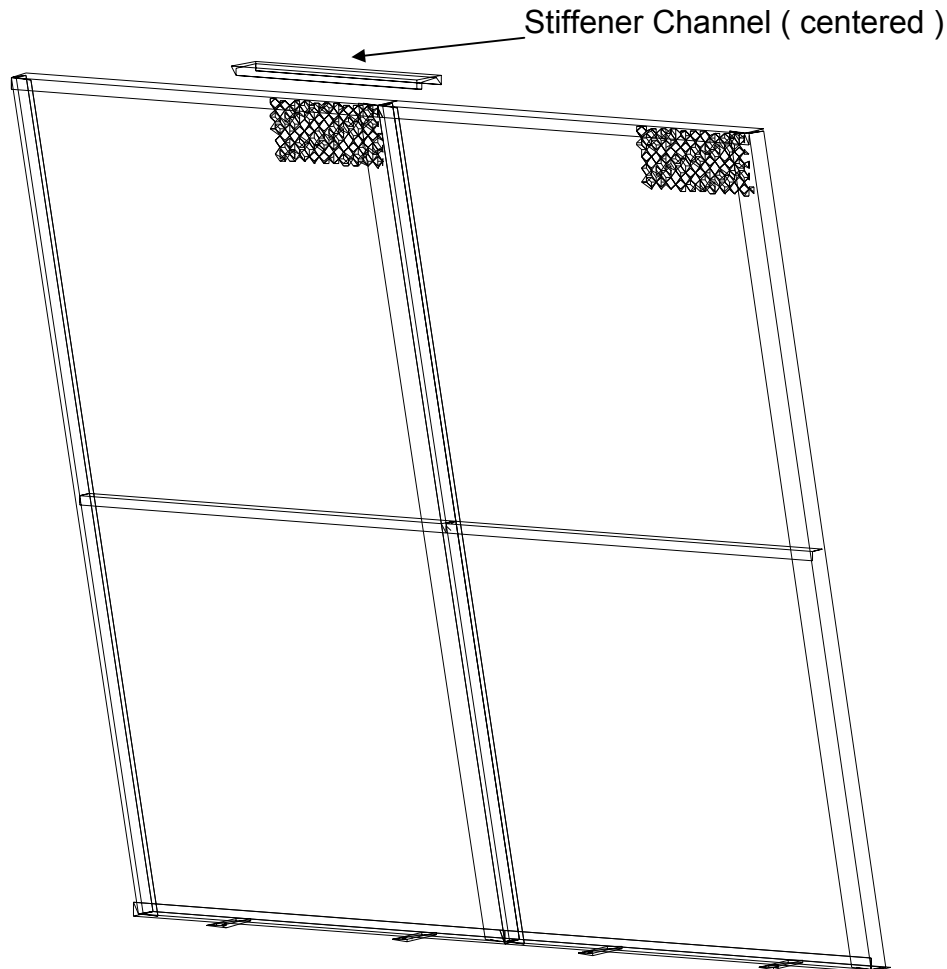

FIGURE 8
5. Across the top of the enclosure panel, mount the 12" long stiffener channel supplied, and attach using TEK screws. (See figure 8)